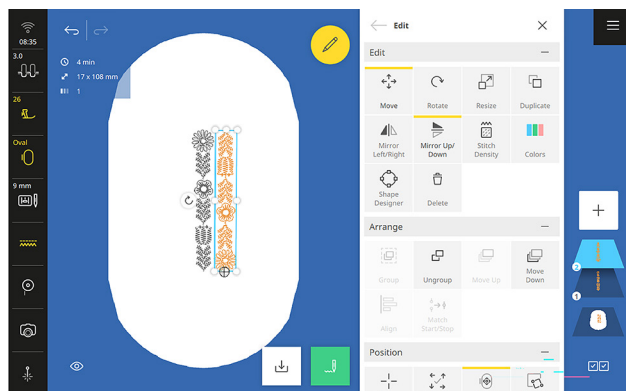

Fig. 23
6. Tap Mirror Up/Down once (Fig. 23).